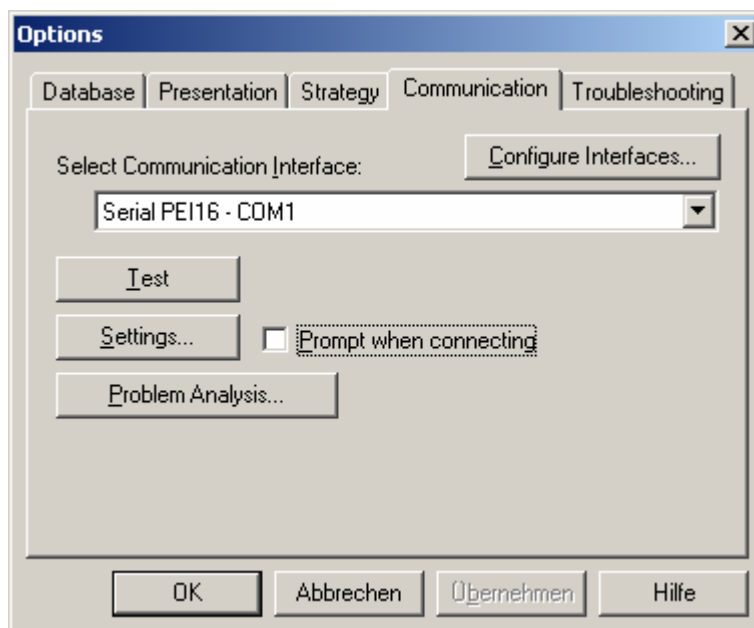

Fig. 4: Options dialog for communication properties of the ETS3
1. Start the ETS3 and open the Options menu with the communication properties (Extras → Options → Communication – cf. Fig. 4).